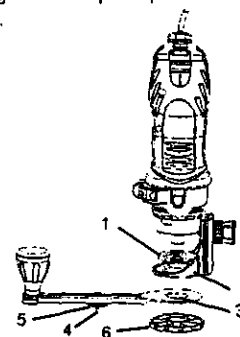

Fig. 12
2. Insert the externally threaded circle cutting guide mounting insert (1) into the bottom of the freehand cutting guide (2) (see Fig. 12).